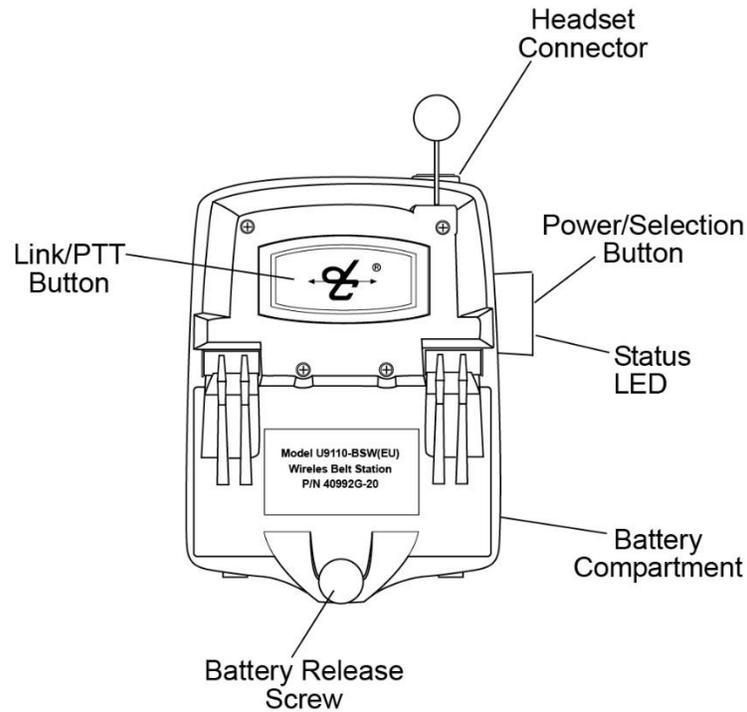

Figure 1: Overview of Belt Station
The U9110-BSW(EU) uses a 3.7V Li-Polymer rechargeable battery. This battery is removed by loosening the battery release screw (See **Figure 1**). These batteries are charged with the A99-14CRG 4-bay battery charger (41034G-02).